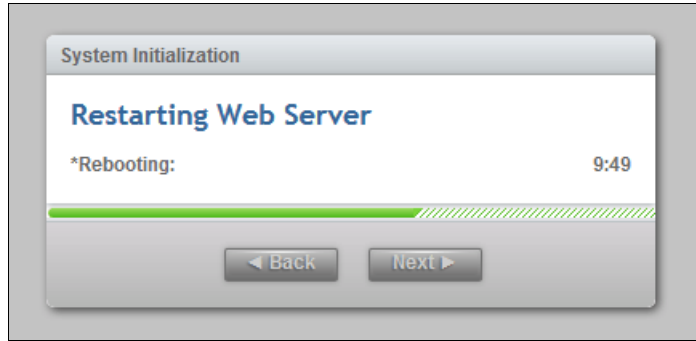

Figure 2-20 System Initialization: Restarting Web Server
9. The system takes approximately 10 minutes to reboot and reconfigure the Web Server, as shown in Figure 2-20. After this time, click **Next** to proceed to the final step.